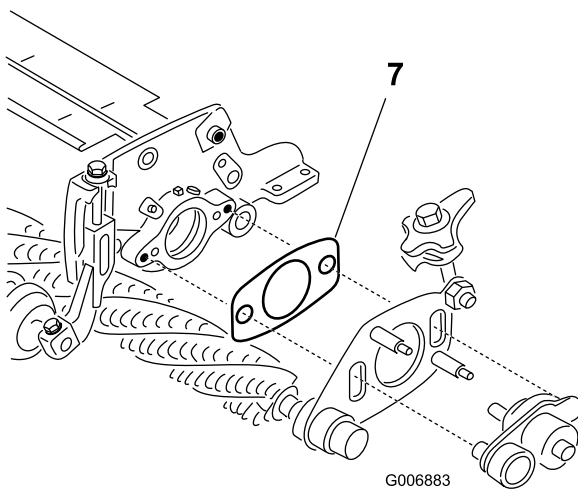

Figure 50
7. Make sure the shim (Figure 50) between the drive side groomer pivot plate and the cutting unit side plate is not pinched by the pivot hub. Shim must be able to move freely.